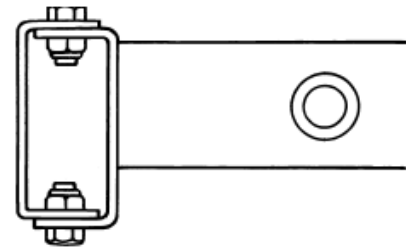

Figure 2- Lower Flanges under the Frame Rail Flanges
4. Install the new crossmember into the frame with the main tube flush with the tops of the inside frame rail formed end brackets. Align the crossmember in the frame, aligning the top, front hole in the formed frame end bracket with the existing hole in the frame. The front surface of the crossmember should be located 31-3/4" back from the top hole on the 4-bar brackets, see **Figure 1**. If you do not have an existing hole in the top of your frame, position the crossmember as shown in **Figure 1**. The lower flanges go under the frame rail flanges, not inside the rails. See **Figure 2**. Drill the remaining 3/8" holes in the frame rails to match the end brackets. Fasten the crossmember to the frame using the 3/8-16X1" bolts and lock nuts provided.